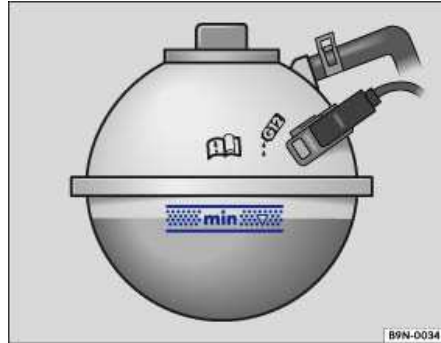

Fig. 144 Coolant expansion tank in the engine compartment.
- When the engine is cold, check the engine coolant level relative to the marking on the side of the expansion tank ⇒ fig. 144.
- The engine coolant level must be inside the marks on the side of the reservoir ⇒ fig. 144. **Do not fill above the top edge of the filling range!** ⇒ .
- Refill engine coolant only up to the top edge of the marked fill range ⇒ fig. 144. Excess engine coolant may be forced out of the engine cooling system when it gets hot and cause damage.